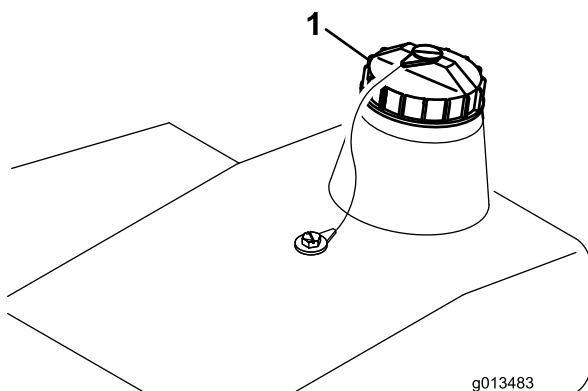

Figure 12
1. Clean the area around the hydraulic oil reservoir cap to prevent debris from entering tank (Figure 12).